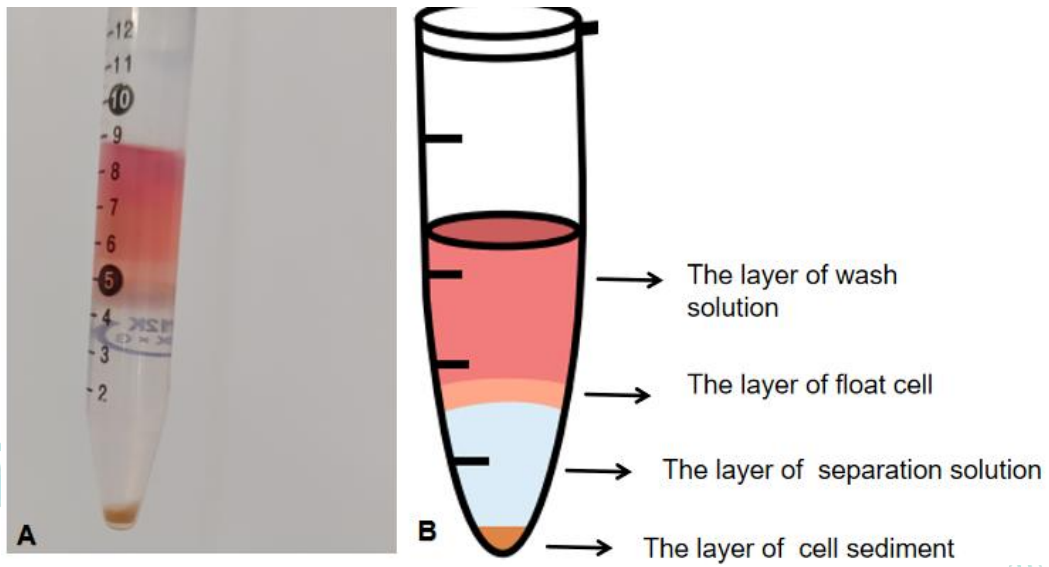

Figure 5. Stratification of cell suspension after centrifugation treated with isolation solution
- 4) Repeat step (2).
- 9) Take out the centrifuge tube, and it can be seen that from top to bottom, the centrifuge tube contains washing solution, dead cell floaters, isolation solution, and pellet of mouse hepatic parenchymal cells (Figure 5). Discard the supernatant and retain the bottom layer of sediment, which consists of the live hepatocytes.